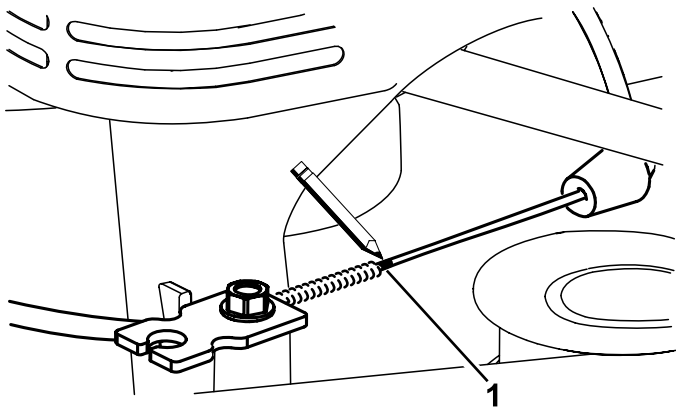
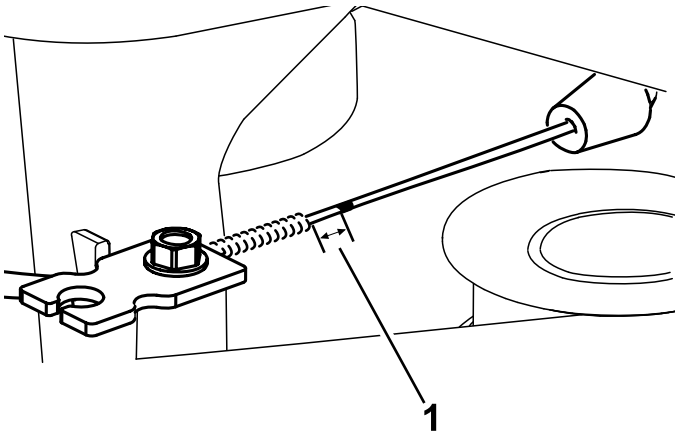

Figure 44
Figure 45
7. Mark the brake cable (Figure 44), then adjust the jacket until there is approximately 11 mm (7/16 inch) of slack (Figure 45).